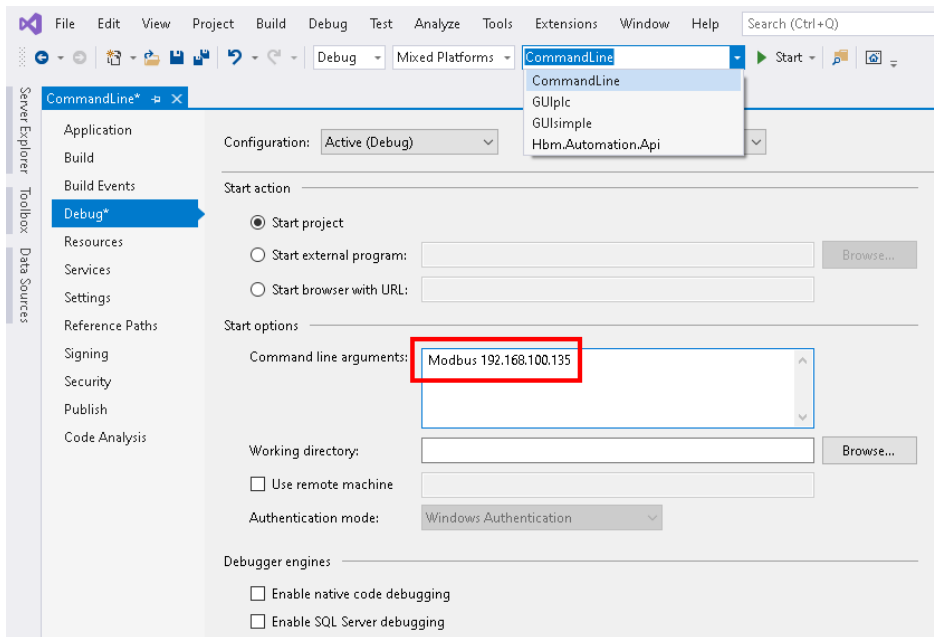

Fig. 6.2 *Entering the start parameters*
- ▶ From the window on the left choose **Debug** and enter the **Command line arguments: Modbus** and the IP address for a connection via Modbus, **Jet** and the IP address for a connection via Jet (*Fig. 6.2*).
- ▶ From the dropdown box at the top of the window choose **CommandLine** (*Fig. 6.2*).